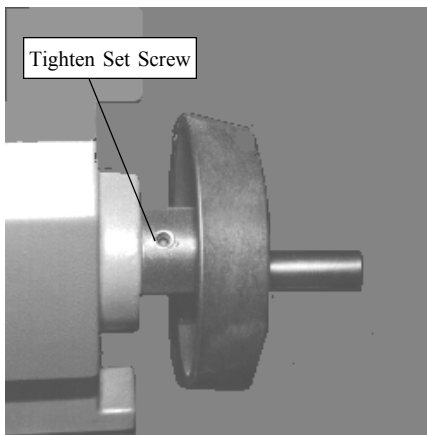

Figure 55
11. Periodically check the retaining screw on the carriage traverse hand wheel for looseness. If found to be loose, tighten securely. Spray the handles of hand wheels with lubricants so they turn freely and are easy to operate. **See Figure 55.**